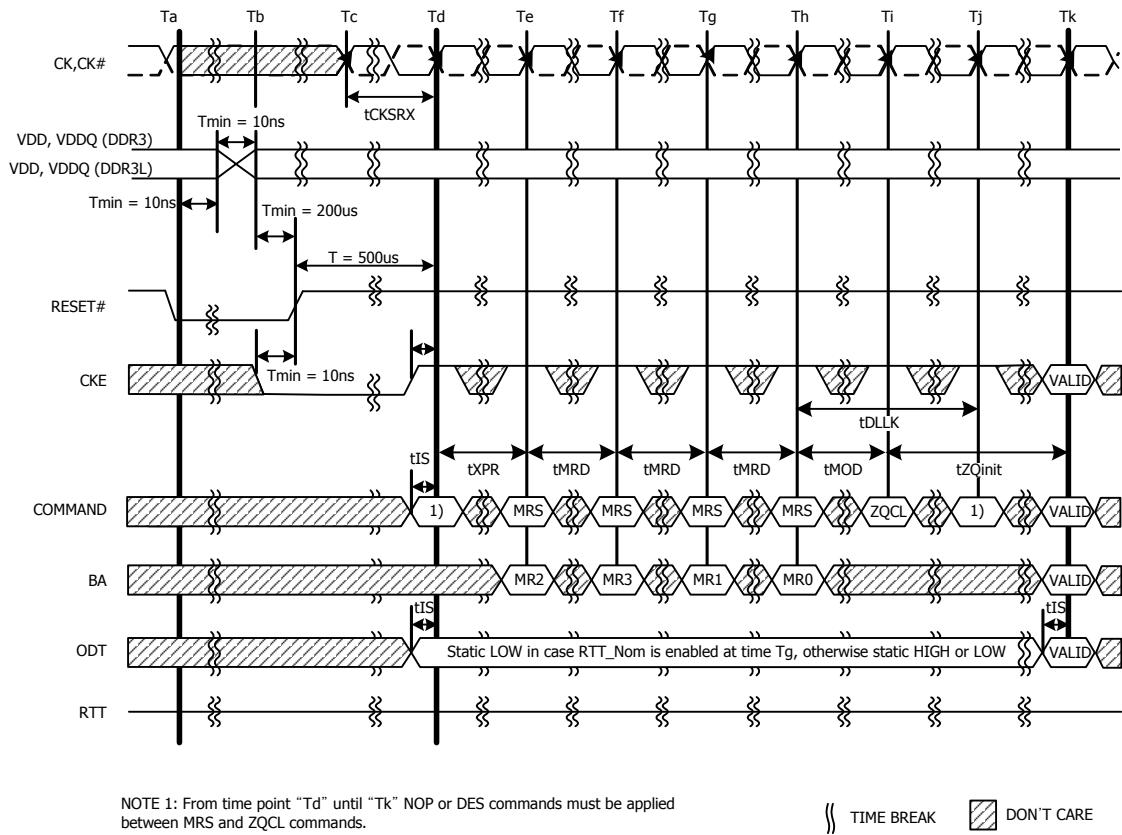

Figure 0 - VDD/VDDQ Voltage Switch Between DDR3L and DDR3
4. Once initialized for DDR3L operation, DDR3 operation may only be used if the device is in reset while VDD and VDDQ are changed for DDR3 operation (see Figure 0)
3. Once initialized for DDR3 operation, DDR3L operation may only be used if the device is in reset while VDD and VDDQ are changed for DDR3L operation (see Figure 0).